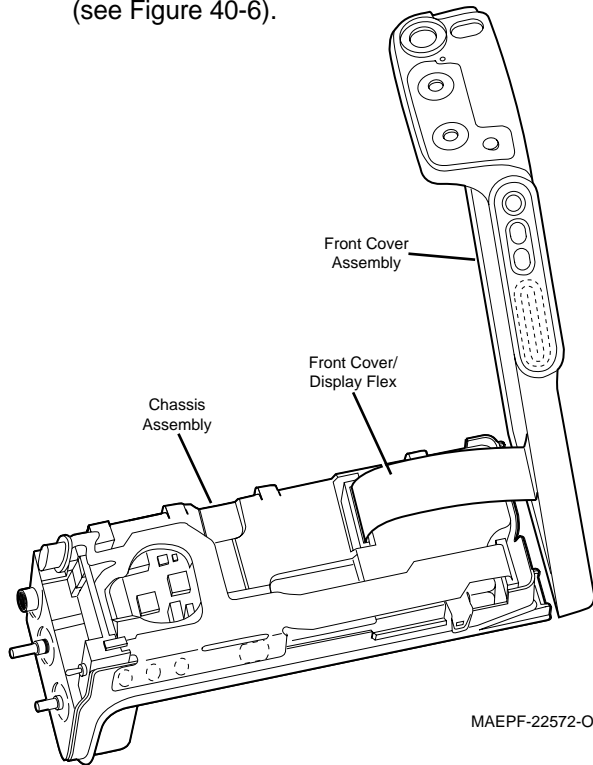

Figure 40-6.
- c. Lay the chassis down, and rotate the front cover back and partially away from the chassis (see Figure 40-6).